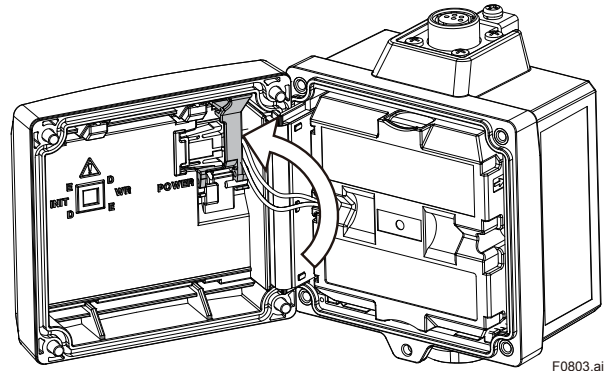

Figure 8.2 Remounting the Battery Pack
3. Push the lever in the direction of the arrow in Figure 8.2.